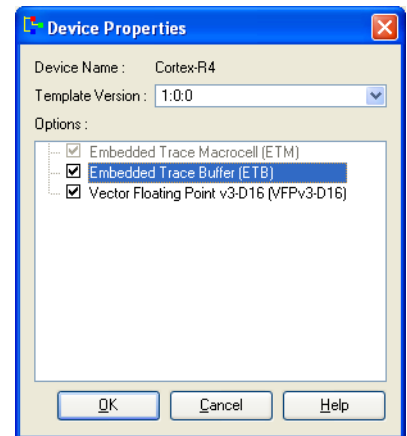

Figure B-7 Device Properties dialog box
5. Select **Properties...** to open the Device Properties dialog box. Figure B-7 shows an example: